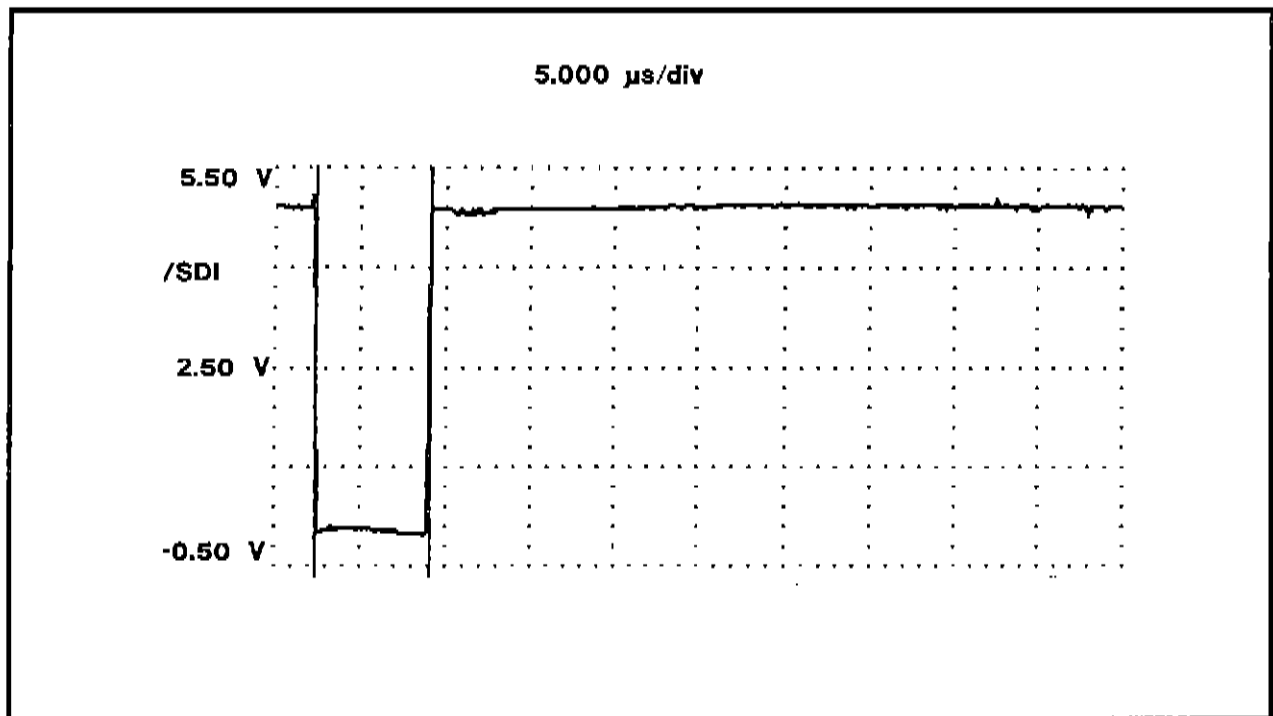

Figure 3-29. TEST 2 or COMMON 2 Scanner PCB /SDI Waveform.
- Repeat the Relay Check utility while observing /SDI on the TEST 2 Scanner PCB at U1-pin 1 (74HC04) and compare to Figure 3-29. This signal originates from TEST 1 Scanner PCB (/SDO signal). If /SDI is different, then troubleshoot the Backplane PCB for a likely cause of this fault.
20. Repeat the Relay Check utility while observing /SDI on the COMMON 2 Scanner PCB at U1-pin 1 (74HC04) and compare it to Figure 3-29. This signal originates from COMMON 1 Scanner PCB /SDO signal. If /SDI does not appear similar to the figure, then troubleshoot the Backplane PCB for a likely cause of this fault.